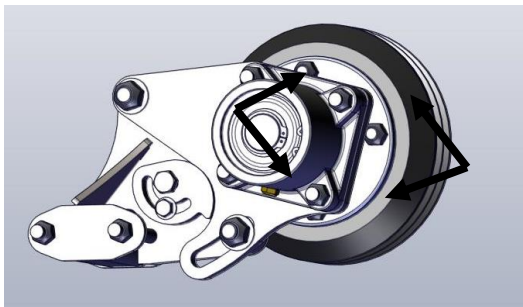

Figure 36
2. Remove the 4 bolts retaining the top bearing. Figure 36